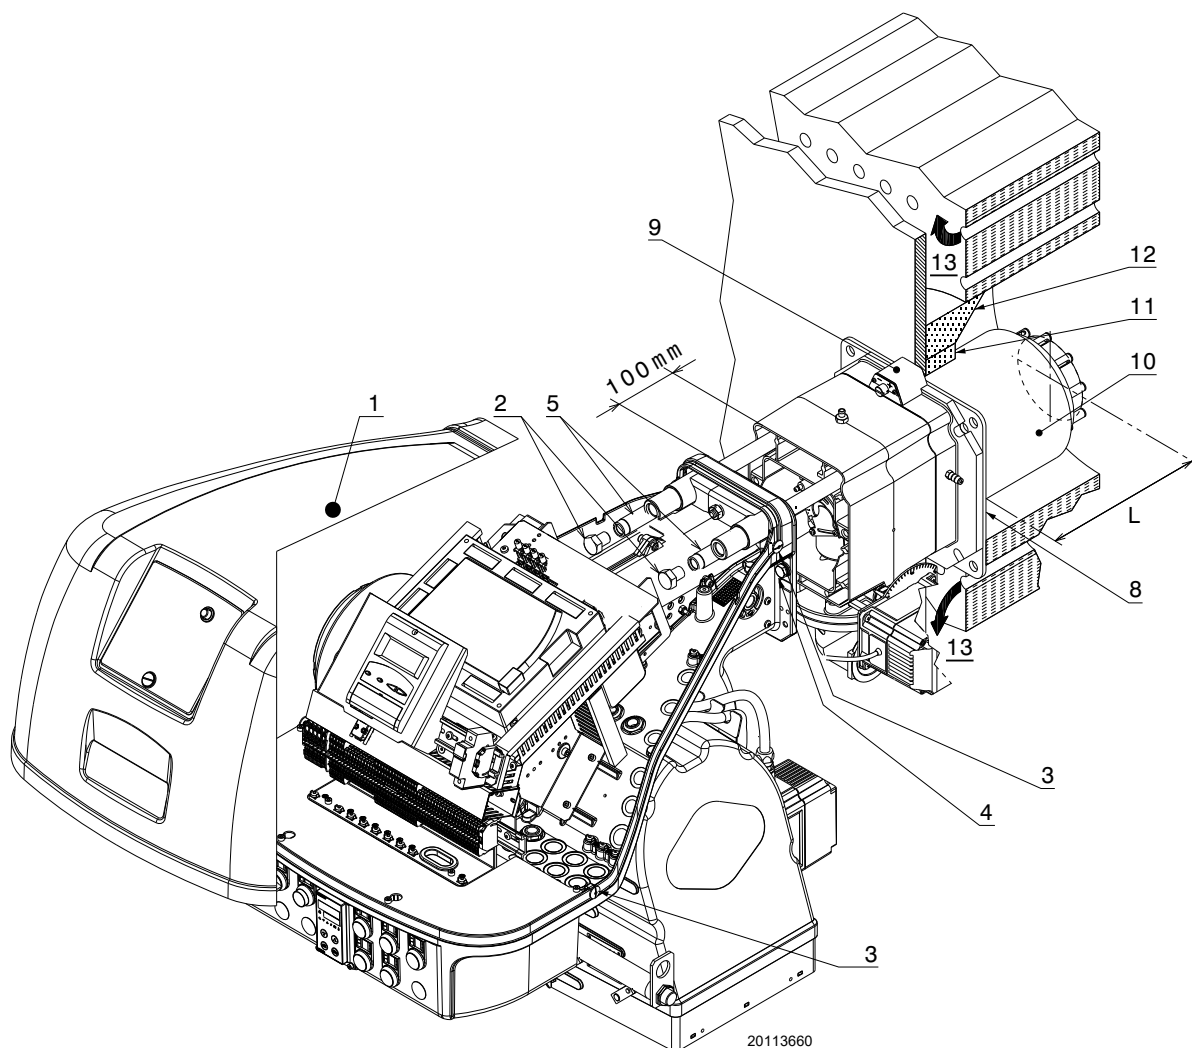

Fig. 17
For boilers with front flue passes 13)(Fig. 17 at page 22), or flame inversion chambers, a protection in refractory material 11) must be inserted between the boiler refractory 12) and the blast tube 10).
Separate the combustion head from the rest of the burner, as in Fig. 17; proceed as follows:
- reassemble the burner on the guides 3) at about 100 mm from the pipe coupling 4) - burner in the position shown in Fig. 17;